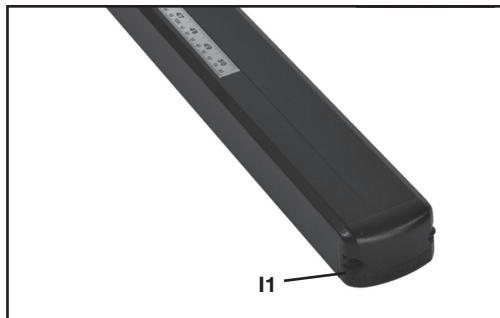

FIG. 16A
3. Remove right side guide tube end cap (I1) Fig. 16A. Use a T25 screwdriver.
6. Replace right side guide tube end cap (I1) Fig. 16A.